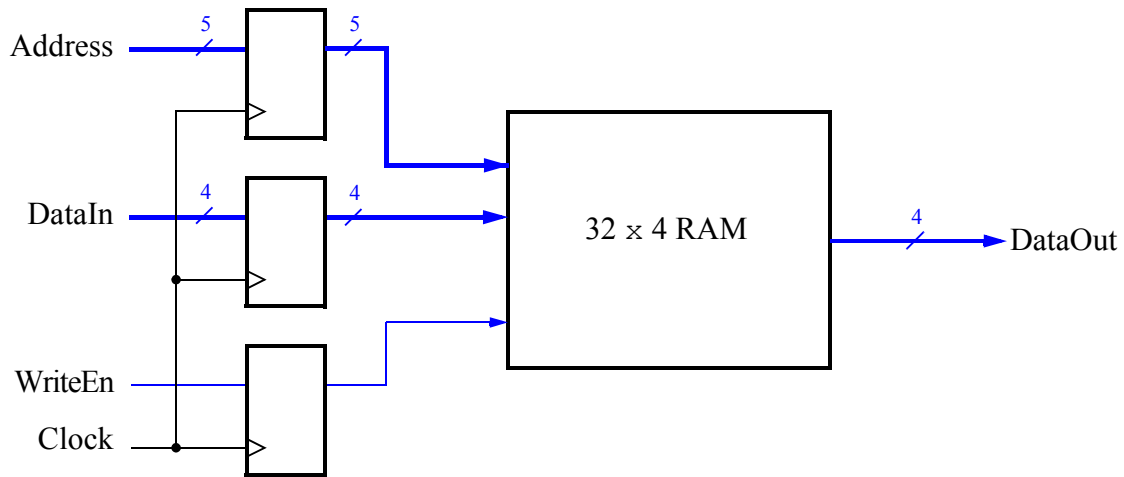

Figure 1: Schematic of the 32×4 embedded memory module.
A general sketch of a memory module is shown in Figure 1. It consists of a memory block, an address register, a data register and a control register (we're only looking at write operations in this example). You can see that the address, input data, and the write enable control signal are all stored in registers before being presented to the memory unit. The registers are used here to model the address and data registers on a typical processor and serve the function of keeping the input values stable for a full clock cycle while the inputs are being changed between clock cycles.
1. A: On the top left, the 4-bit input A is Address in Figure 1.
2. *M3 [Write enable]*: Just below *A*, *M3* is *WriteEn* in Figure 1.
3. *M2 [Output enable]*: this signal is not shown in Figure 1 but is used for reading values. If *output enable* is 1, the the memory at the address will be displayed on *DataOut*.